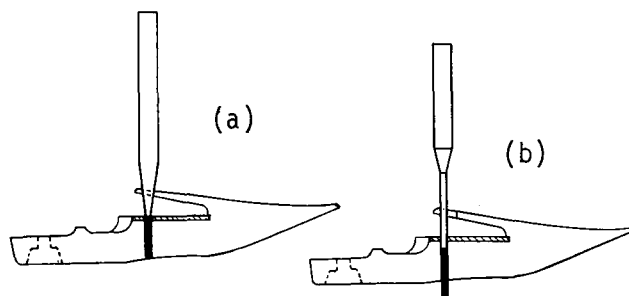

Figure 5. Start driving the ledger plate rivet with a drift punch (a) and finish with a pin punch (b).
**GUARDS:** Too often the guards are overlooked when a mower is reconditioned. Worn ledger plates must be removed first and replaced with new ones. A mower repair block is again a big aid. Begin driving the rivet out from the top with a drift punch and finish with a 3/16-inch pin punch (figure 5). Do not strike the pin punch too hard, it will bend or break easily. A flat-headed rivet is used to fasten the new ledger plate; be sure that it is flush with the surface of the plate, otherwise the effective shear action of the cutting parts will be affected.